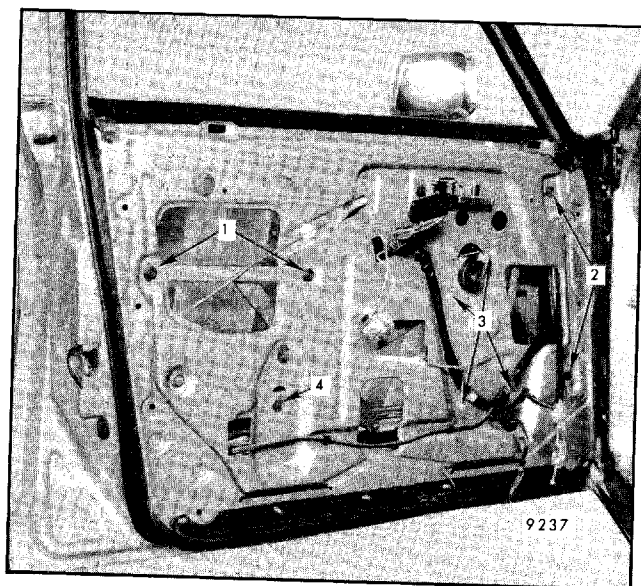

Fig. 5-124 - Window Hardware Attachments - K Style
1. **WINDOW ROTATED** - Loosen door window inner panel cam attaching screws (1, Fig. 5-124) and adjust glass as required. Tighten attaching screws to 72 in-lb.
2. **WINDOW TOO HIGH OR TOO LOW IN DOWN POSITION** - Loosen window down stop (4, Fig. 5-124) and raise or lower window to desired full-down glass height. Then position down stop against lower edge of glass and tighten attaching screw to 72 in-lb.
2. Mark location and remove inner panel cam attaching screws (1, Fig. 5-124), then remove inner panel cam.